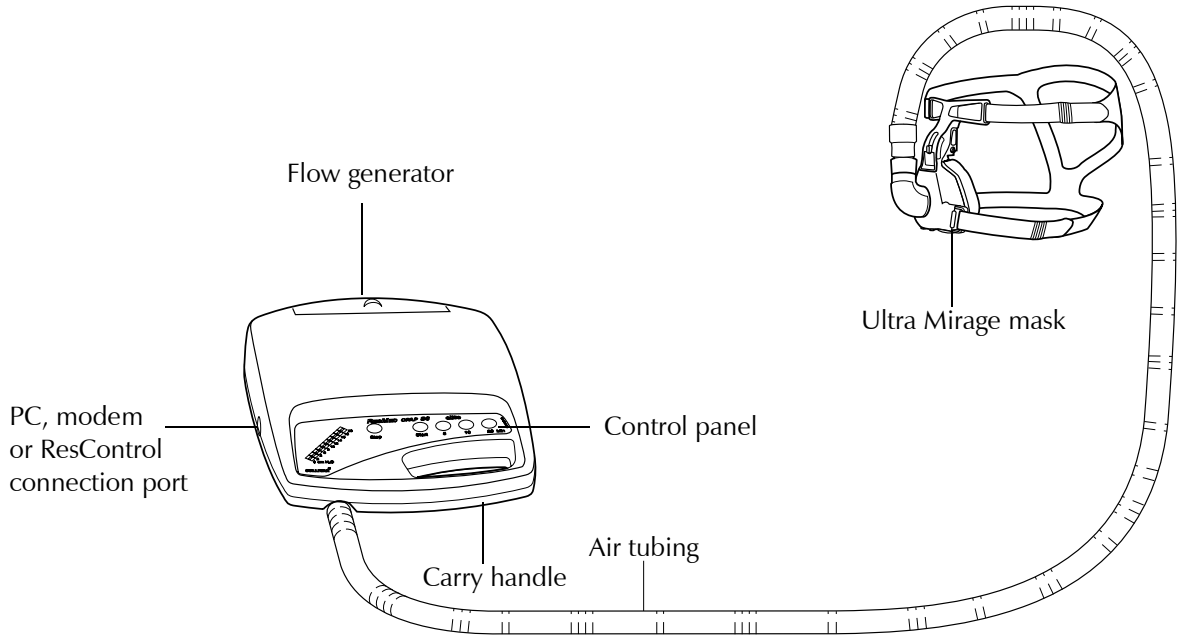

Figure 1 : ResMed CPAP S6 system
**1** Check that you have the following items (see Figure 1, ResMed CPAP S6 system, on page 5):